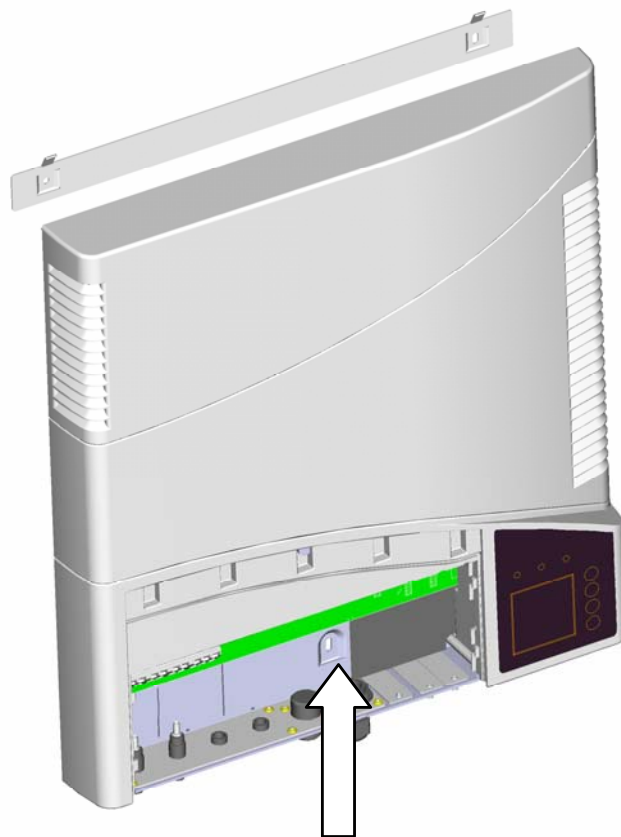

Fig. 7 Location for the third screw
- 3) Hang AURORA to the metal support in order to determine the location of the third hole, remove AURORA, drill the third hole, install the expansion screw, hang AURORA to the support bar again and secure it with the third screw (Fig. 7)